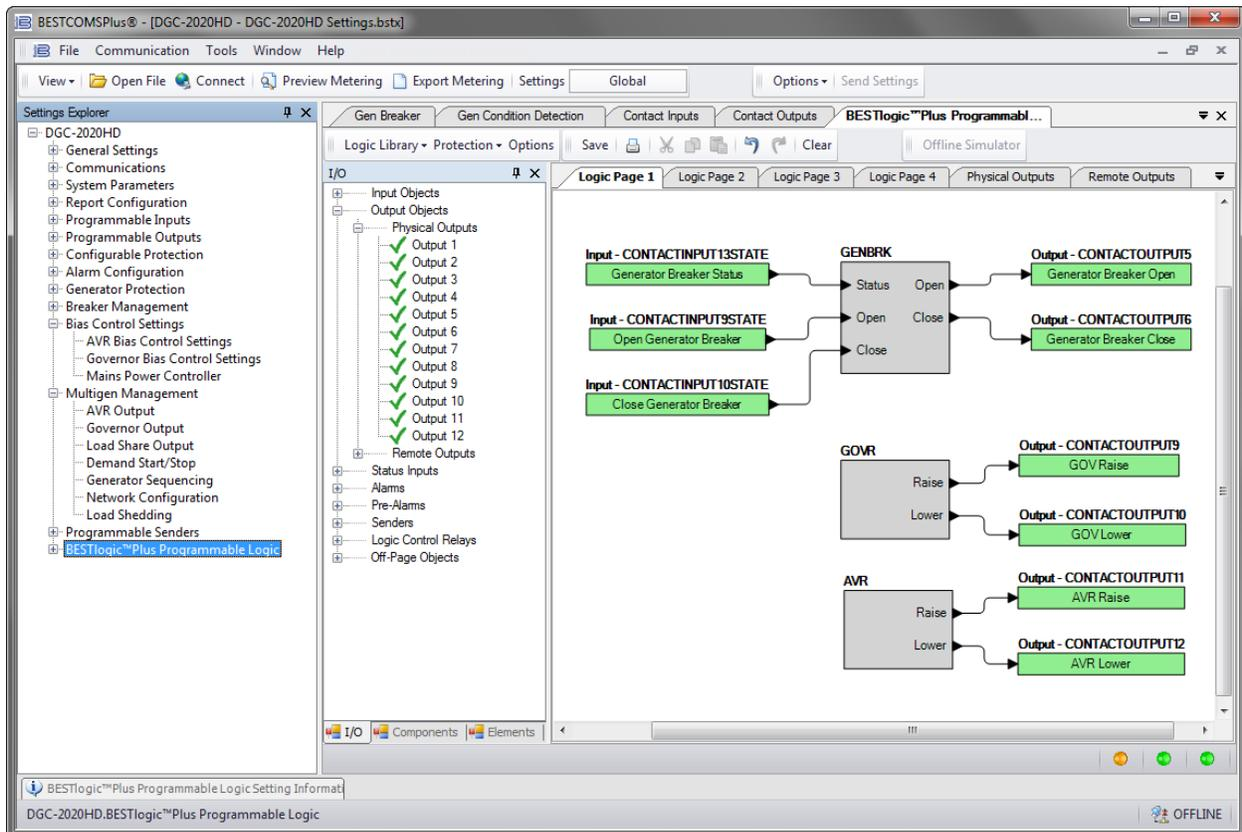

Figure 13-13. Synchronizer Setup in *BESTlogicPlus* Step 28
28. Click on the I/O tab and drag the outputs assigned in step 4 into the main logic screen. Connect the GOVR and AVR blocks to the appropriate output contacts. See Figure 13-13.